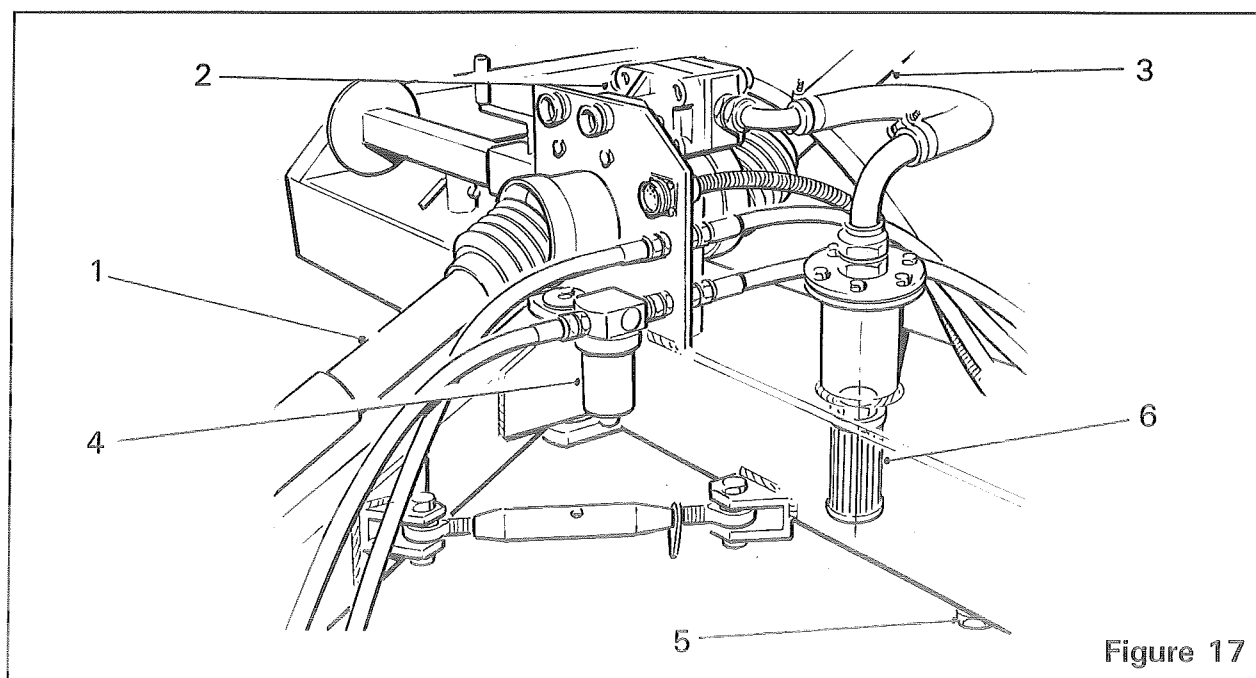

Figure 17
The drive is transferred from the tractor to the machine by the PTO shaft (*item 1, figure 17*). The PTO shaft drives the gearbox which in turn drives the hydraulic pump (*item 2, figure 17*). The PTO shaft should be checked occasionally to ensure that the inner and outer tubes can slide freely. Binding of the tubes may cause premature wear of the gearbox input bearings.
From the gearbox, the drive is taken via a universal coupling (*item 3, figure 17*) to the second gearbox. The second gearbox transmits the drive to both the 1st and 2nd stages of the machine. The gearbox oil levels should be checked occasionally and topped up with EP 90 gear oil as necessary.
The pressure line filter (*item 4, figure 17*) is fitted with an indicator. When the indicator is pointing to the red segment, the filter element should be replaced. To replace the element, unscrew it from the bottom of the filter assembly.
The hydraulic pump (*item 2, figure 17*) supplies the pressurised oil to drive the clod breaking rotor and agitator motors. The pump produces a flow rate of 15 gallons/minute at 540rpm PTO speed. The oil reservoir for this system is integral within the front and left hand frame members of the chassis. Check the oil level regularly by removing the filler/breather cap (*item 6, figure 16*) and top up with Nuto 46 Centistroke Oil to the dimension shown (*see figure 16*).
Every 500 hours or annually, drain the hydraulic reservoir and clean the magnetic drain plug (*item 5, figure 17*). Remove and clean the suction strainer (*item 6, figure 17*). Refill the hydraulic reservoir with Nuto 46 Centistroke Oil (35 gallons).